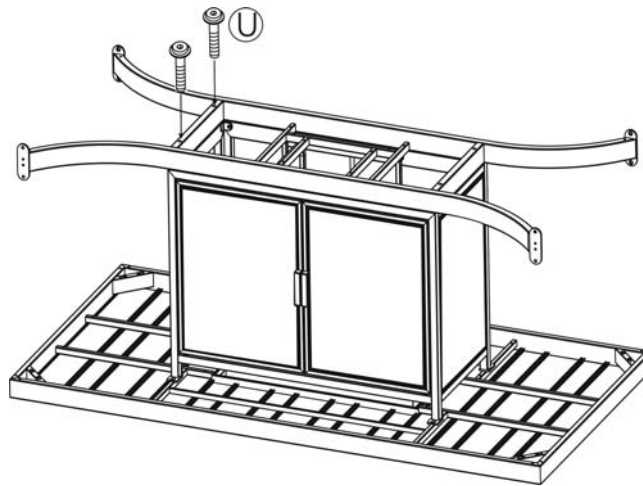

Figure 6
6. Attach the LP support frame to the fire pit base by using four 1/4"x70 mm bolts as shown in Figure 6. Hand tighten only 2-3 turns.